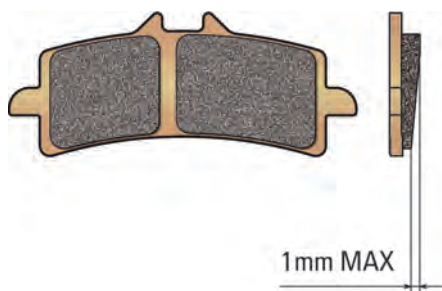

Fig. 6
- Pad tangential wear difference must not exceed 1 mm MAX (see fig. 6).